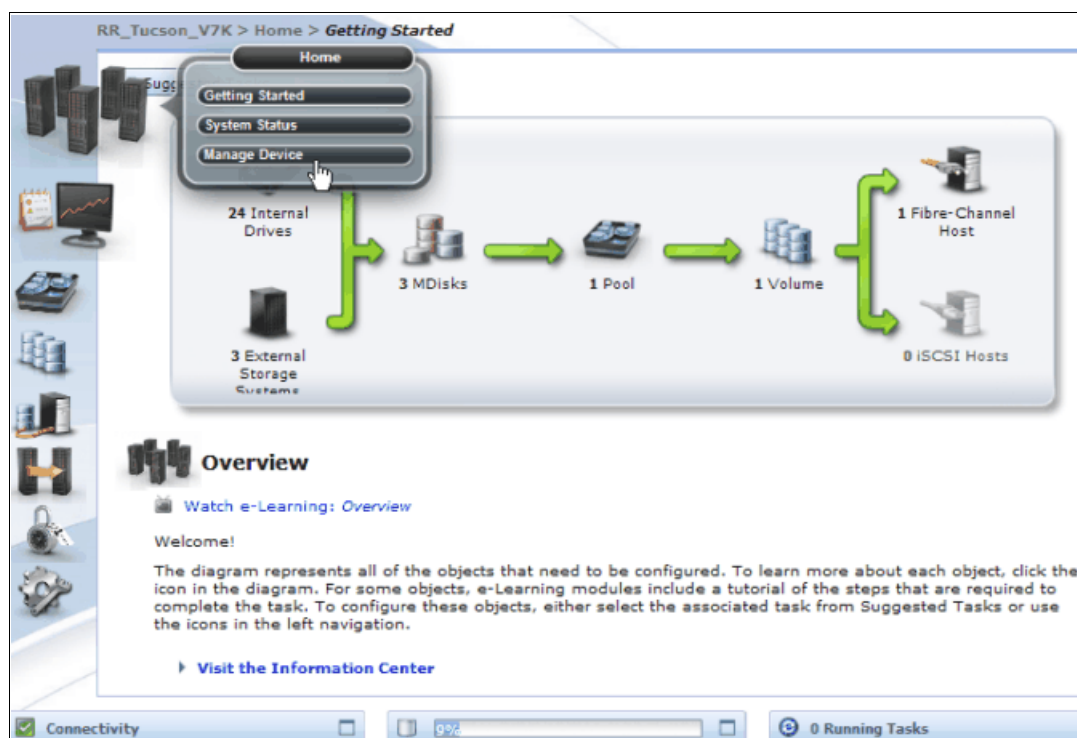

Figure 5-39 Manage Device
- In the Management GUI, select **Home** → **Manage Device**, as shown in Figure 5-39.